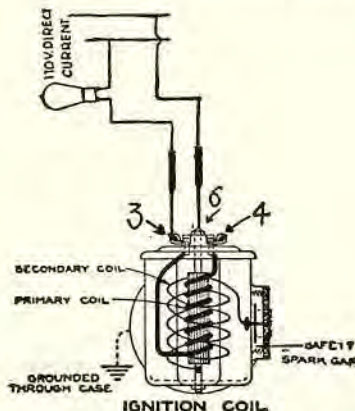

Fig. 3. Testing primary winding of ignition coil.
1. Test the wiring from coil to switch by placing one lamp test point on 2, and one on 3, then from switch to ammeter (2 to 5), and ammeter to breaker (6 to 7), to see if these are open circuits, grounds, short circuits, or loose connections. Also examine the switch and coil connections. The 110 or 220-volt direct-current test lamp and leads (Fig. 3) can be used for this, but be sure no current is passed through the ammeter and that the ignition switch is open.
To test primary winding of ignition coil for ground: Remove the coil-housing cover and disconnect the coil leads from the terminal block on the cover (Fig. 3). Hold one test lead against rod (6) in the center